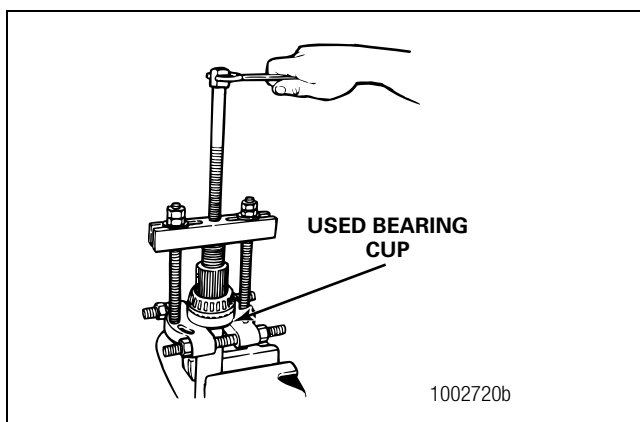

Figure 3.16
2. Install a bearing puller tool onto the thru-shaft. Figure 3.16. The bearing cup supports the thru-shaft.